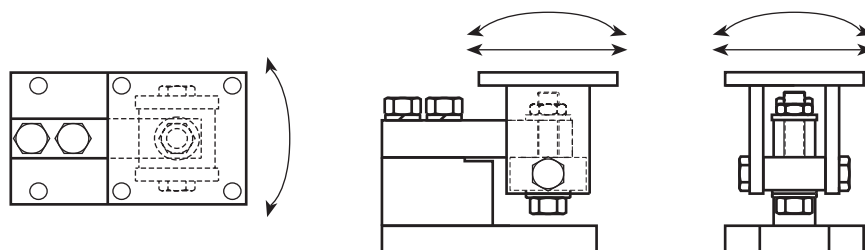

Figure 8-7. RL1800 and RL1855 HE Modules on Horizontal Cylindrical Tank
Figure 8-7 illustrates the RL1800 and RL1855 HE modules with arrows indicating allowable movement.
- A chair arrangement is attached to the trunnion block through pivot screws, and the load is applied to the top plate of this chair. This arrangement allows the chair to move in the directions indicated in Figure 8-7.